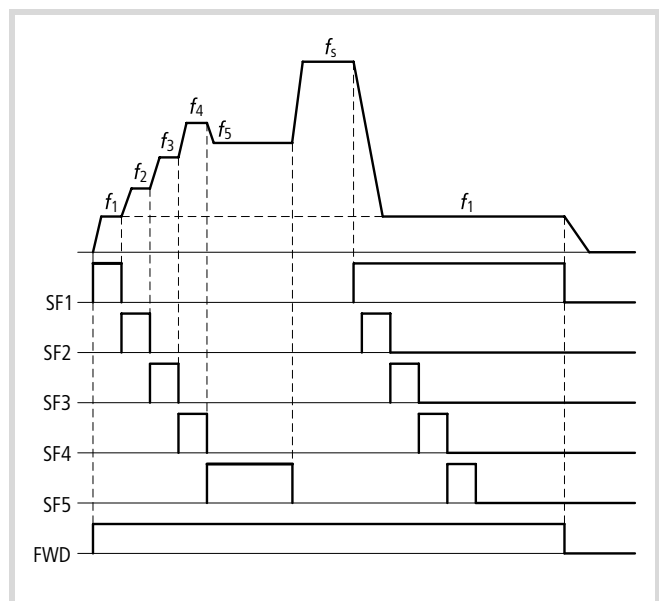

Figure 57: Function chart for bitwise fixed frequency selection (SF1 to SF5)
- ▶ Select the defined fixed frequencies by activating the respective digital inputs (→ fig. 57).
Fixed frequency SF1 has the highest, and SF5 the lowest priority (→ fig. 57).